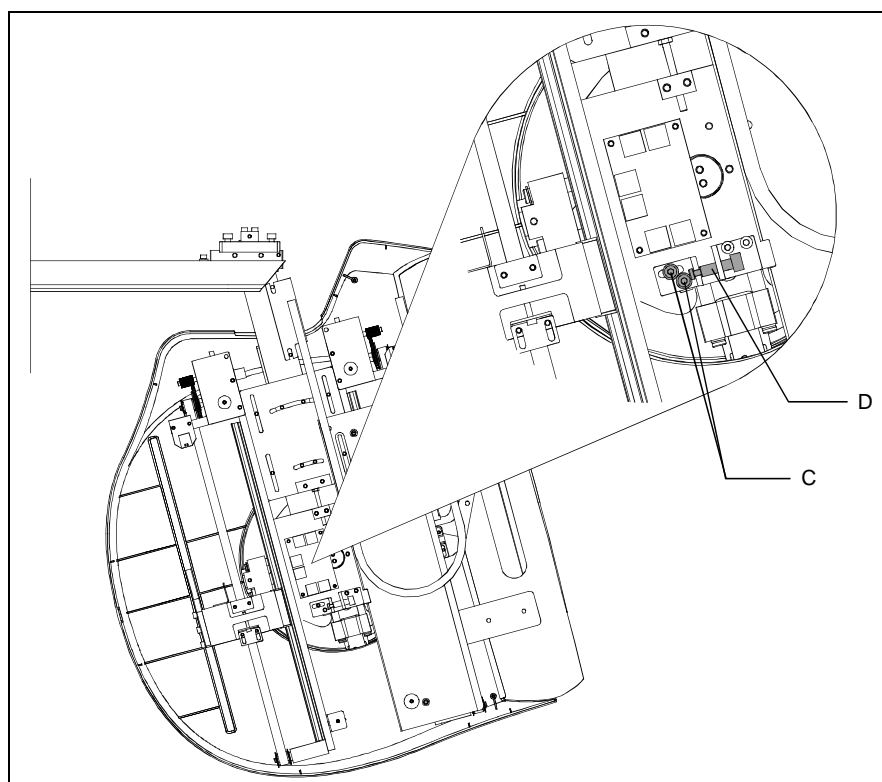

Figure 7-6
- 22.** To adjust the horizontally alignment between the two rings, loose the two screws "C" (Figure 7-6) and rotate the ear rings support group acting on screw "D". Once the aligned position has been reached (test exposures are required), tighten screws "C".